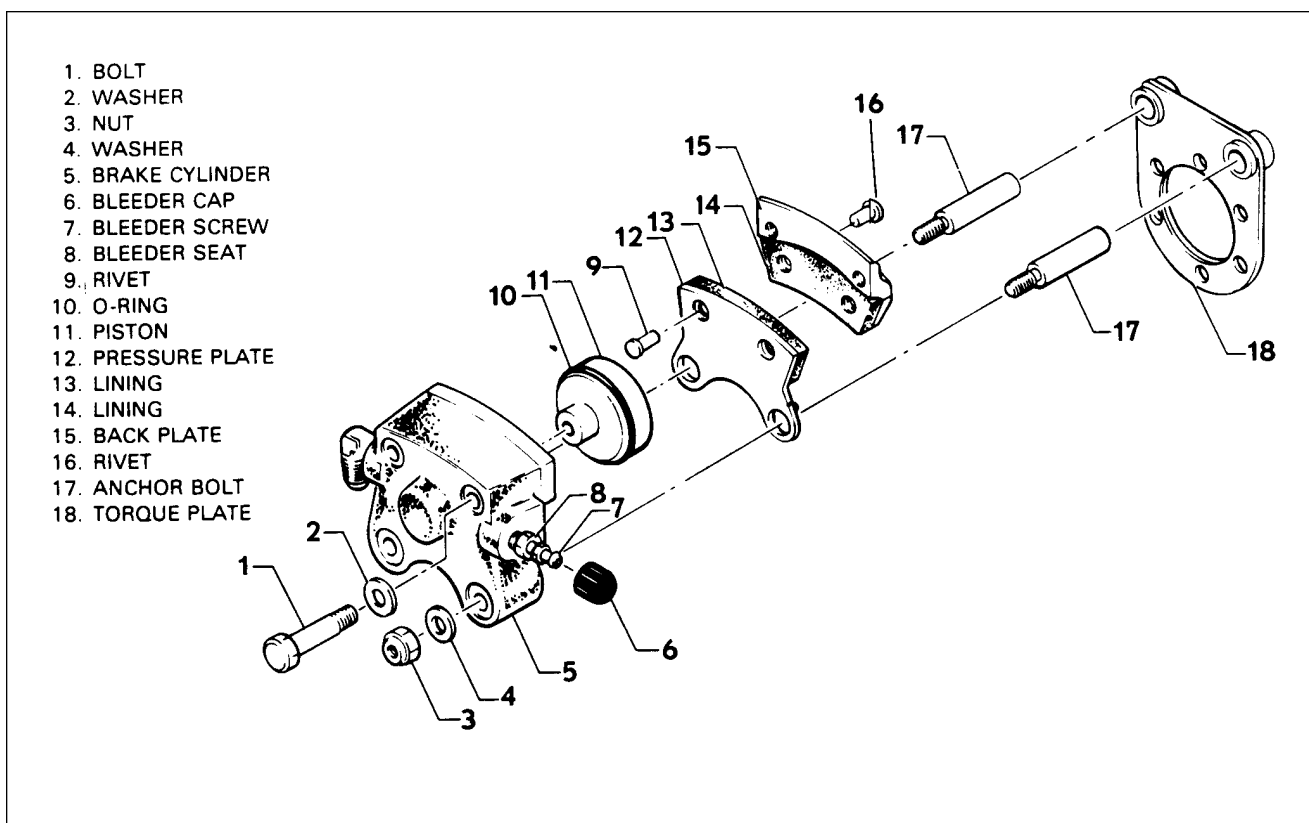

Figure 32-11. Brake Assembly
H. REMOVAL AND DISASSEMBLY OF BRAKE ASSEMBLY (Refer to Figure 32-11.)
J. ASSEMBLY AND INSTALLATION OF BRAKE ASSEMBLY (Refer to Figure 32-11.)